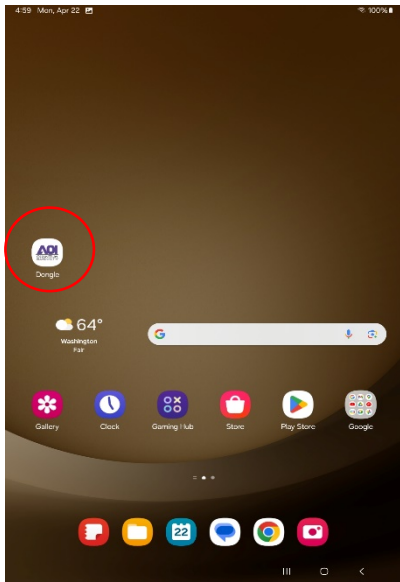

Figure A- 10: Home Screen
- Locate and Initiate QuantumLink Local Mobile Application on the Technician's portable device (Tablet/Handheld), see Figure A-10.